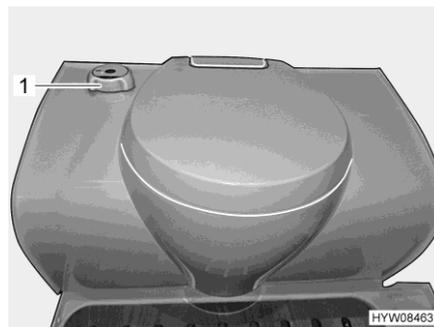

Fig. 110 Thetford toilet
- Turn the rotary handle (Fig. 110,1) in an anticlockwise direction.
- Turn the rotary handle (Fig. 110,1) in a clockwise direction.